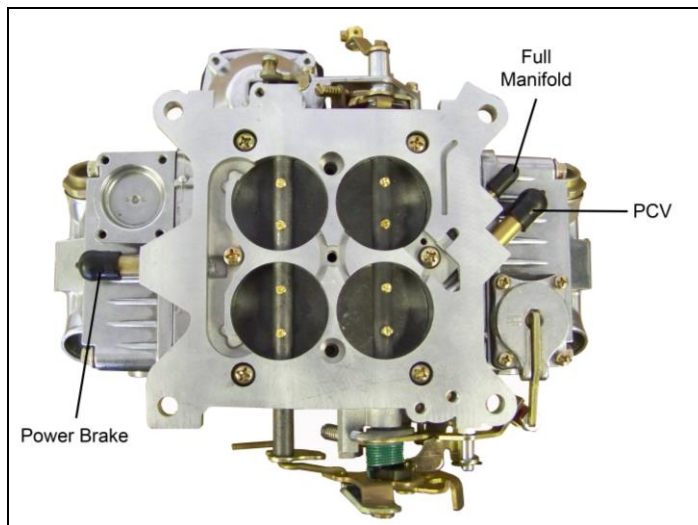

Figure 8
1. Attach the vacuum gauge to a manifold vacuum port on the throttle body (**Figure 8**).